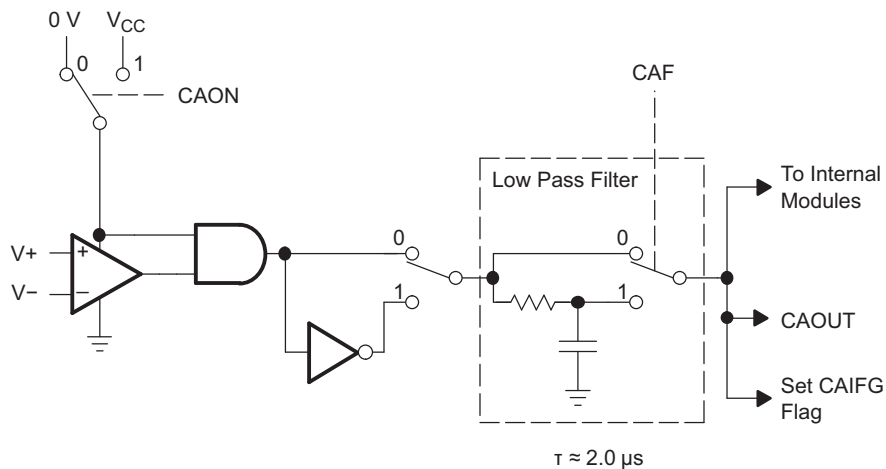

Figure 16. Block Diagram of Comparator\_A+ Module
| t (response)           | Response time(low-high and high-low)                    | T A = 25°C, Overdrive 10 mV,Without filter: CAF = 0 (3)(see <a href="#">Figure 16</a> and <a href="#">Figure 17</a> ) | 2.2 V           | 80   | 165  | 300                 | ns   |
|                                   |                                                             | T A = 25°C, Overdrive 10 mV,With filter: CAF = 1 (3)(see <a href="#">Figure 16</a> and <a href="#">Figure 17</a> )    | 2.2 V           | 1.4  | 1.9  | 2.8                 | μs   |